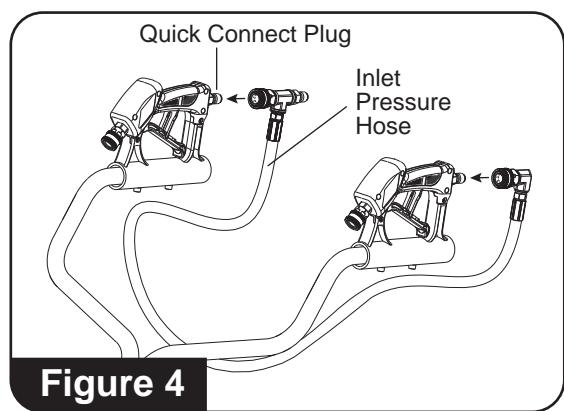

Figure 4
4. Attach the inlet pressure hose to the handles. **(See Figure 4)**